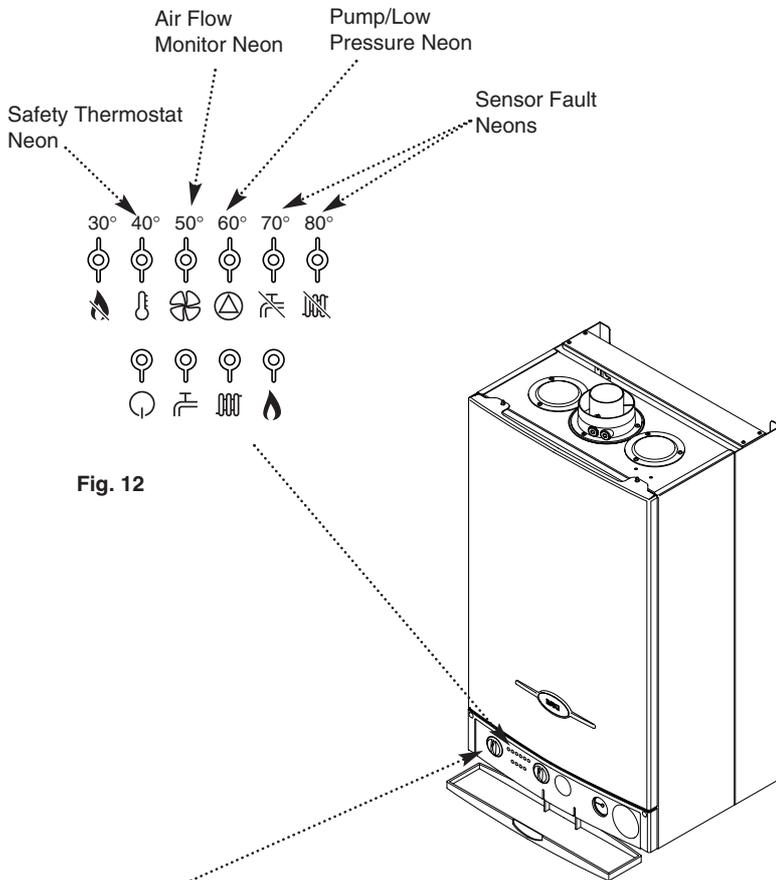

Fig. 12
2. If the (⊕) neon illuminates it indicates that the flue or flue terminal is blocked or obstructed in some way, or that there is an internal fault. If there is no external blockage of the flue terminal that can be easily removed contact your Service Engineer (Fig. 12).
1. The neon (⊕) will illuminate if the circulating pump is faulty or the system pressure drops below the minimum requirement (Fig. 12).
1. Your Baxi System 35/60 or 60/100 is fitted with an additional safety device, which shuts down the boiler in the event of the system or the boiler overheating. The safety thermostat neon (⊕) will light in this instance (Fig. 12).